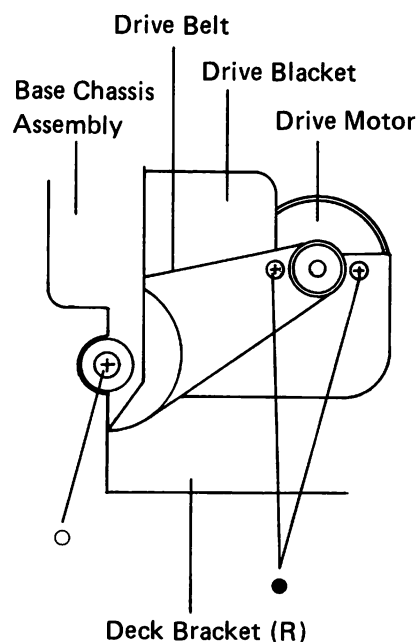

Figure 32
- (1) Remove the cassette deck assembly.
- (2) Remove two screws (●) as shown in Figure 32. and two lead wires (violet, orange) from the wire assembly P.C. Board.
- (3) After replacing the drive motor assembly with a new one, assemble it in the reverse way to disassembly.
- (4) After assembling, confirm tape speed and wow/ flutter are suitable according to "Adjustment Procedures".
- (2) Remove a screw (○) as shown in Figure 32.
- (3) After replacing the drive Belt with a new one assemble it in the reverse way to disassembly.